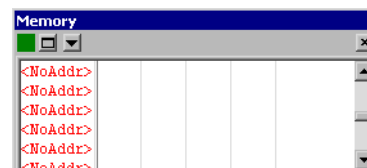

Figure 6-10 Memory pane
6. If no Memory pane is visible, select **View** → **Memory** to display the Memory pane, shown in Figure 6-10 on page 6-20.